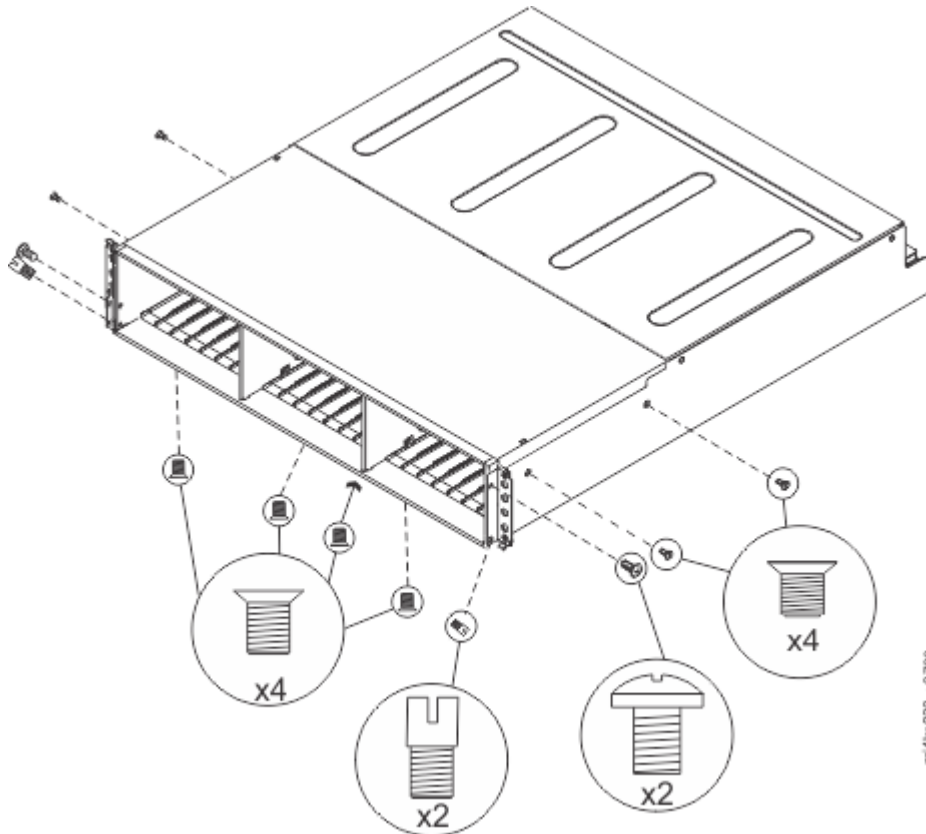

Figure 115. Removing the screws of an expansion enclosure assembly
12. Remove the four screws from the bottom of the enclosure (see Figure 115 on page 164). Remove the three screws that are near the front and the screw that is near the middle. Label these screws to indicate the location from which they are removed and place them aside.
14. Remove the three screws and one screw-pin on the right side that secure the midplane assembly to the enclosure (see Figure 115 on page 164). Label the screws to indicate the location from which they are removed and place them aside.
15. Remove the three screws and one screw-pin on the left side that secure the midplane assembly to the enclosure (see Figure 115 on page 164). Label the screws to indicate the location from which they are removed and place them aside. See Figure 4.